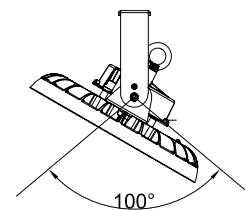

FIGURE 7
4. After installation, connect the wire of the fixture to the mains according to local wiring rules, ensure the connection is stable and protected. By adjusting the bracket screws, users can adjust 50° to the left or right vertically (Figure 7).